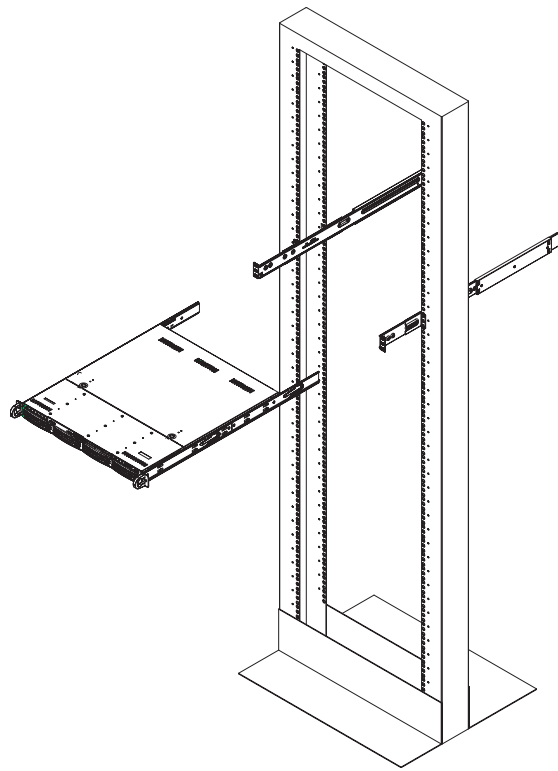

Figure 2-4. Installing the Server into a Telco Rack
2. Slide the chassis rails into the rack rails, keeping the pressure even on both sides (you may have to press the locking tabs when inserting). See Figure 2-4.